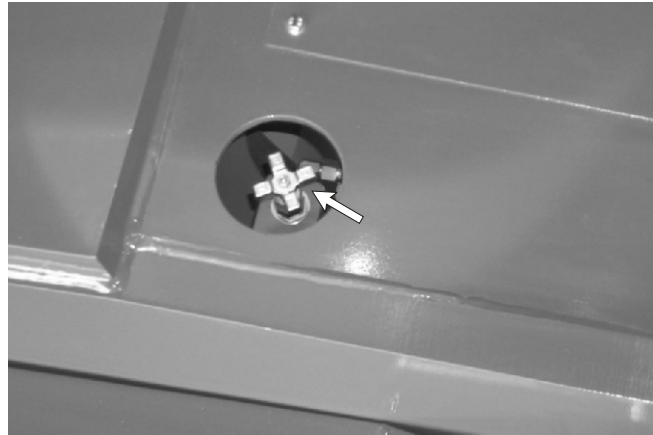

Figure 11.7—Steer Float Valve
7. Locate the steer float valve (refer to Figure 11.7) Open by turning knob anticlockwise fully.